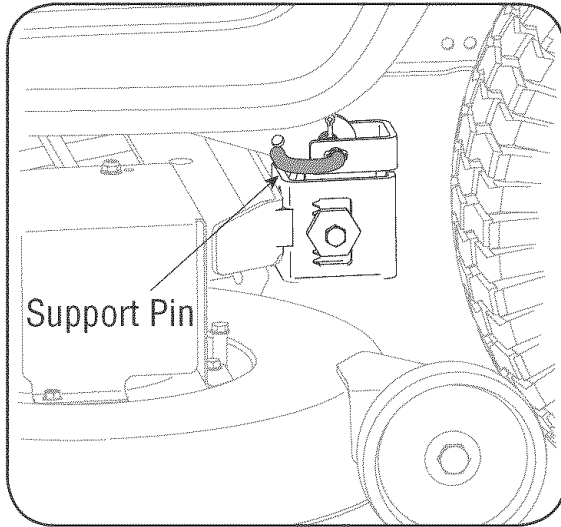

Figure 15
4. Looking at the cutting deck from the left side of the tractor, locate the deck support pin on the rear left side of the deck. See Figure 15.